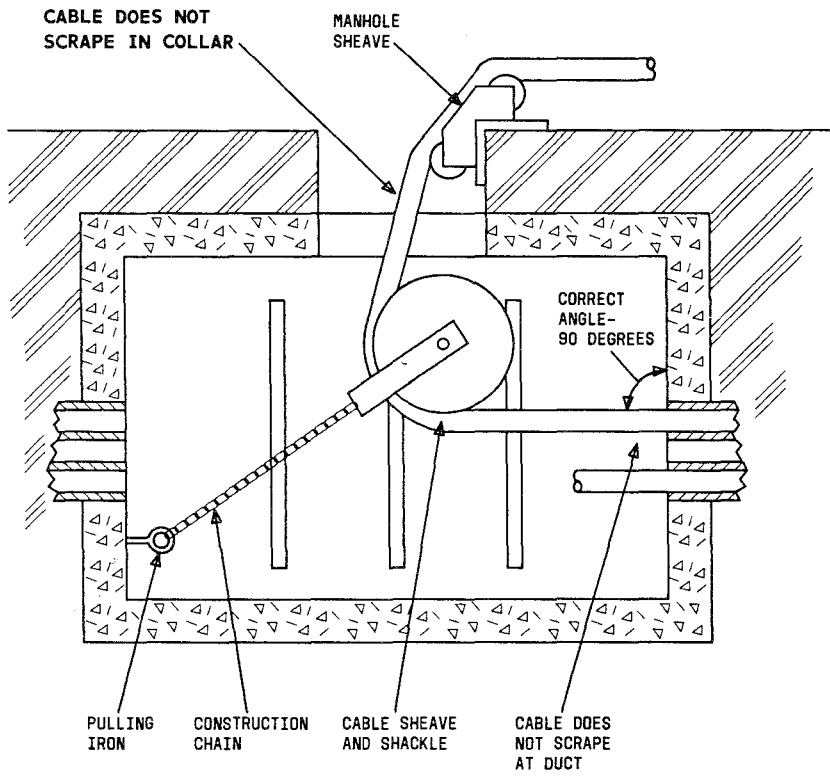

Fig. 1—Proper Equipment Alignment Using Cable Sheave and Shackle
2.05 If the manhole is equipped with a pulling-in iron, set up in the manhole with a cable sheave and shackle and quadrant block or manhole sheave as shown in Fig. 1. If pulling irons are not in the manhole, set up with a pulling frame